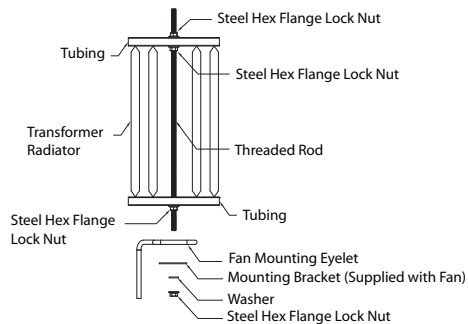

Figure 5 — Accessory Guard-Mounting Kit Installation (Top View)
- Mount (1) piece of the 3/4 inch square tubing to the end of each of the (4) rods using (2) steel hex flange lock nuts as shown in Figure 5. Tighten firmly (be sure nuts do not loosen when assembling the clamping nut at the front face of the radiator).
- Mount the fan eyelet over the nut followed by (1) mounting bracket, washer and nut.